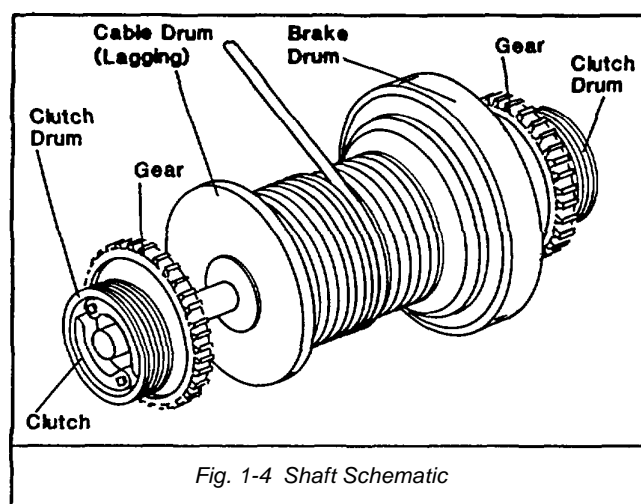

Fig. 1-4 Shaft Schematic
- 1-4 Upper Operating Theory: Refer to Fig. 1-4. Each of the three main shafts operate in the same manner. The shaft is mounted on bearings in the upper frame. A cable drum (lagging) and brake drum are splined to the shaft, between the two sides of the upper frame.